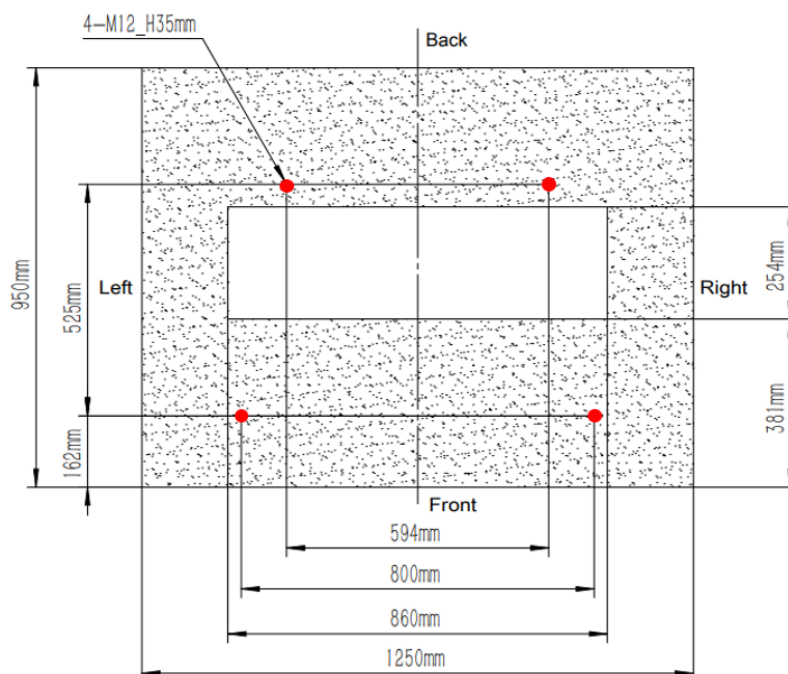
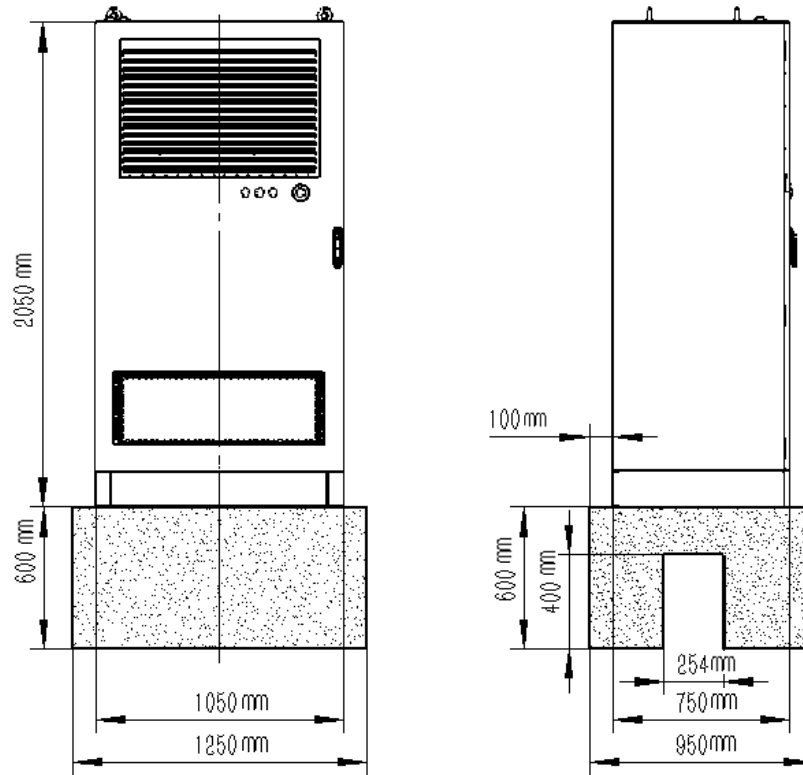

Figure 1 Top view of concrete foundation of 240kW power cabinet
Figure 2 Installation three views of 240kW power cabinet
- (1) Correct it based on the ground level when pouring the foundation.
- (2) The necessary maintenance channels shall be reserved on site depending on the specific space.
- (3) The concrete strength grade of the foundation is  $\geq 4000$  (consider using impermeable concrete in the areas with wet soil).
- (4) Cable inlet holes shall be reserved on the concrete foundation.
- (5) After the foundation is completed, test the levelness with a spirit level.
- (6) M12 anchor bolts shall be used for fixing and pre-embedding, and they shall be pre-embedded into the concrete foundation in advance according to the drawing positioning, with 30-40mm thread on the upper surface of concrete foundation exposed.
- (7) The top view of the concrete foundation of 180kW (single cabinet) power cabinet is shown in Figure 1, and the installation three views are shown in Figure 2.